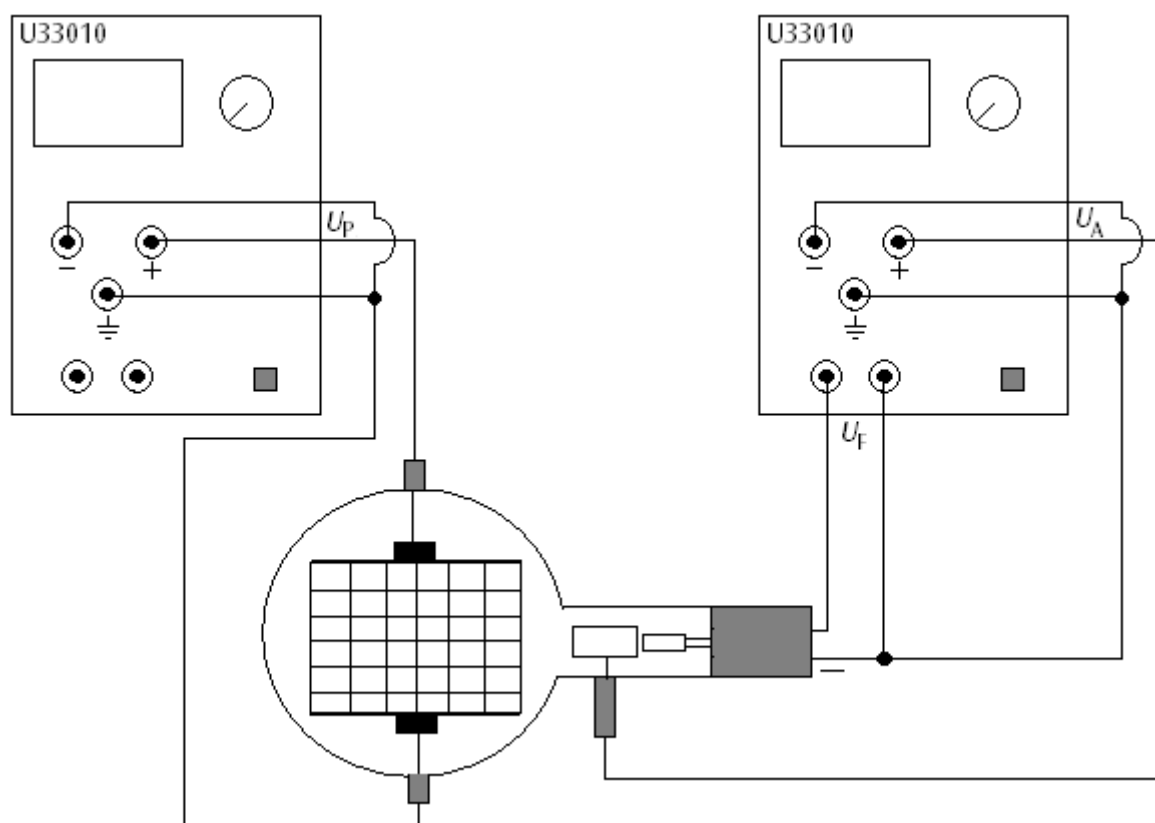

Fig.3 Electric deflection
- Set up the tube as in fig 3. Connect the minus-pole of the anode voltage to the 4-mm socket marked with a minus.
- Set up the experiment as in Fig 3.